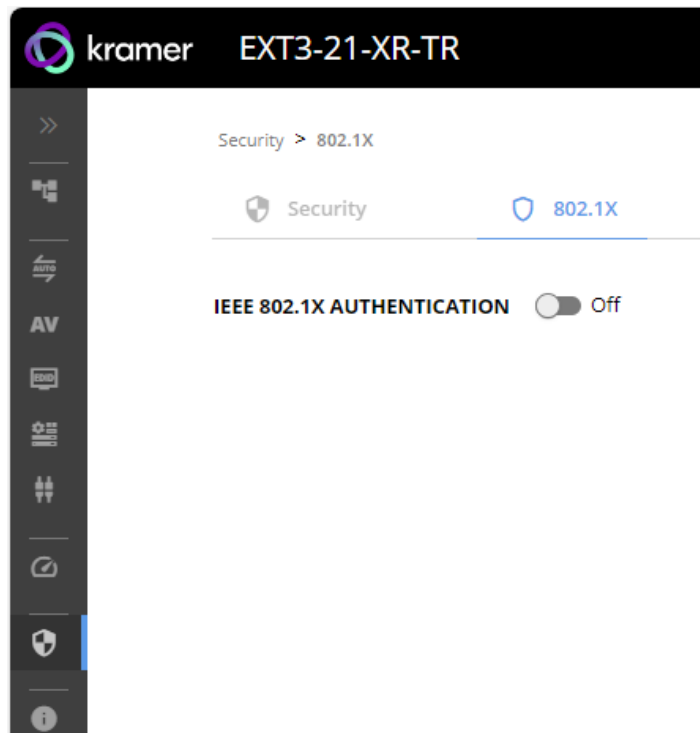

Figure 50: 802.1X Tab
2. Select **802.1X** tab. The 802.1X settings tab appears (see Figure 50).